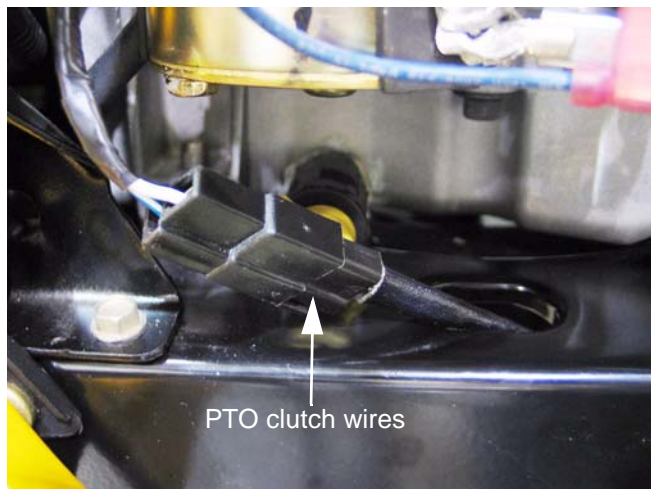

Figure 30.3
- 30.3. Identify and unplug the wires leading to the electric PTO clutch. See Figure 30.3.